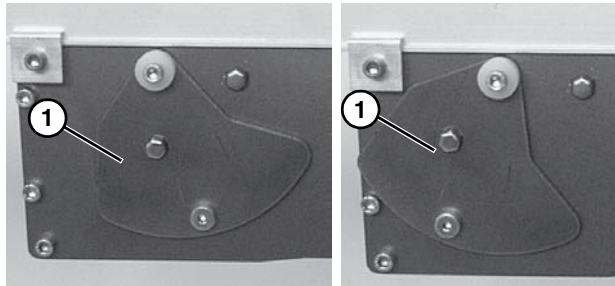

Figure 50
For a new belt, the tension plate (**Figure 50, item 1**) will be in position indicated below left. When the tension plate extends to position indicated below right, the conveyor belt must be replaced.